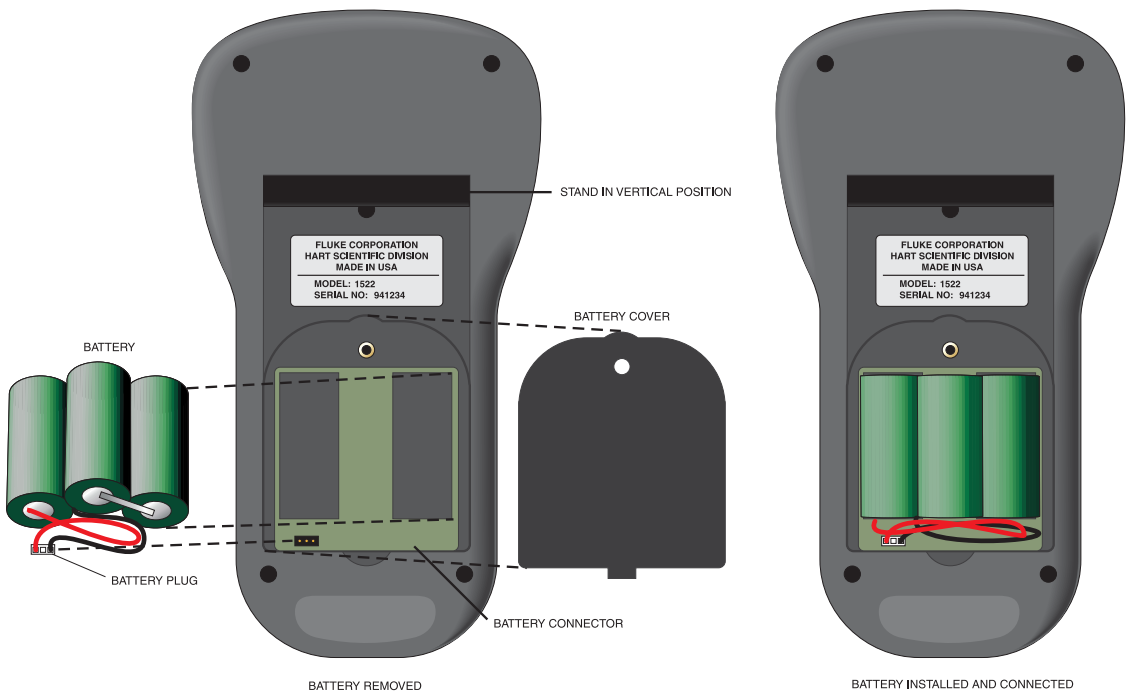

Figure 4 Battery Installation
See Figure 4 on page 21.
2. With the 1522 facing down, lift the stand to expose the battery cover (see Figure 4). Remove the battery cover screw with a small Philip's screwdriver. Remove the battery cover to access the battery pack.
4. Attach the polarized plug of the new battery pack onto the connector in the same direction as before (see Figure 4 on page 21). Place the battery pack in the battery compartment.